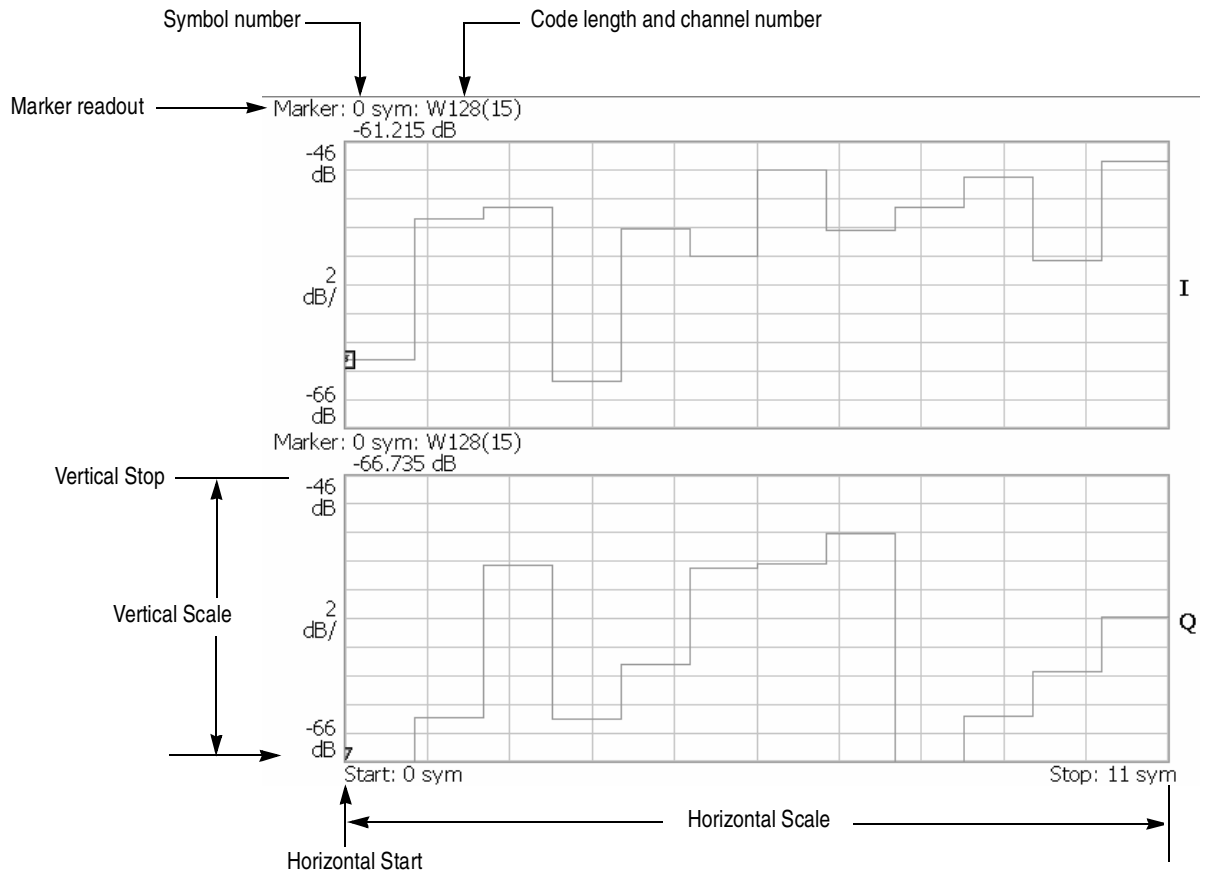

**Figure 2-10: Power codogram display**
**Power Codogram Display.** When you select Mainview Content from the VIEW DEFINE menu and then select Power Codogram from the Mainview Content submenu, the code domain power is displayed in spectrogram (see Figure 2-10).